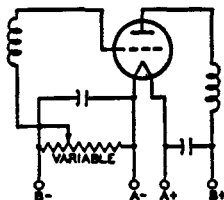
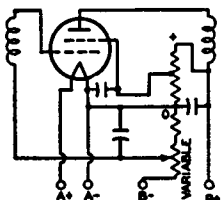

Fig. 84—Amplifier stage using a variable cathode-bias resistor for volume control.
Fig. 86—Amplifier stage using a bleeder circuit and potentiometer for volume control.
Grid-bias variation for the rf and if amplifier stages is a convenient and frequently used method for controlling receiver volume. The variable voltage supplied to the grid may be obtained: (1) from a variable cathode resistor as shown in Figs. 84 and 85; (2) from a bleeder circuit by means of a potentiometer as shown in Fig. 86; or (3) from a bleeder circuit in which the bleeder current is varied by a tube